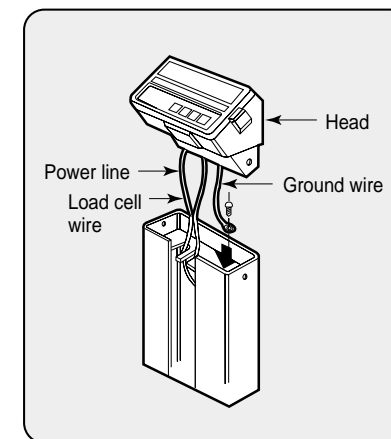

fig. 2
2. Fix a ground wire with bolt then arrange the power line and loadcell line as fig 2.